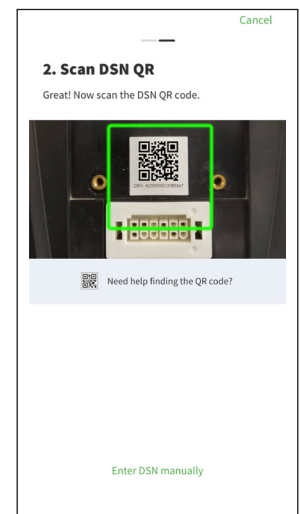

Figure 140 - Scan DSN QR Code
- 4 Next you will be asked to scan the DSN (Device Serial Number) QR Code located on the control assembly behind the face plate (Figure 140).